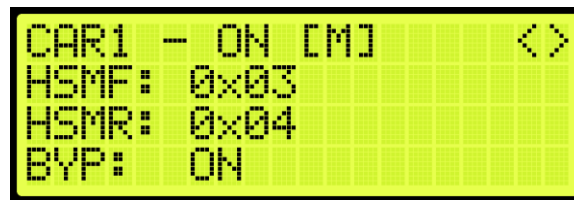

Figure 371: Front and Rear Hall Security Mask Status
11. From the Front and Rear Hall Security Mask Status (See Figure 371), press the right button.